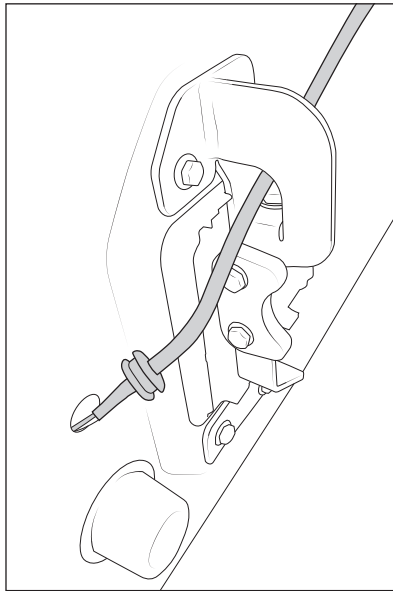

Figure 21
5. Install wiring harness through the hole in the tailgate. Wipe silicone or dish soap on the grommet to ease installation, then carefully use trim tool or flathead screwdriver to start grommet into hole. Fully seat it by hand. Route the harness along the tire carrier as shown (fig. 21).